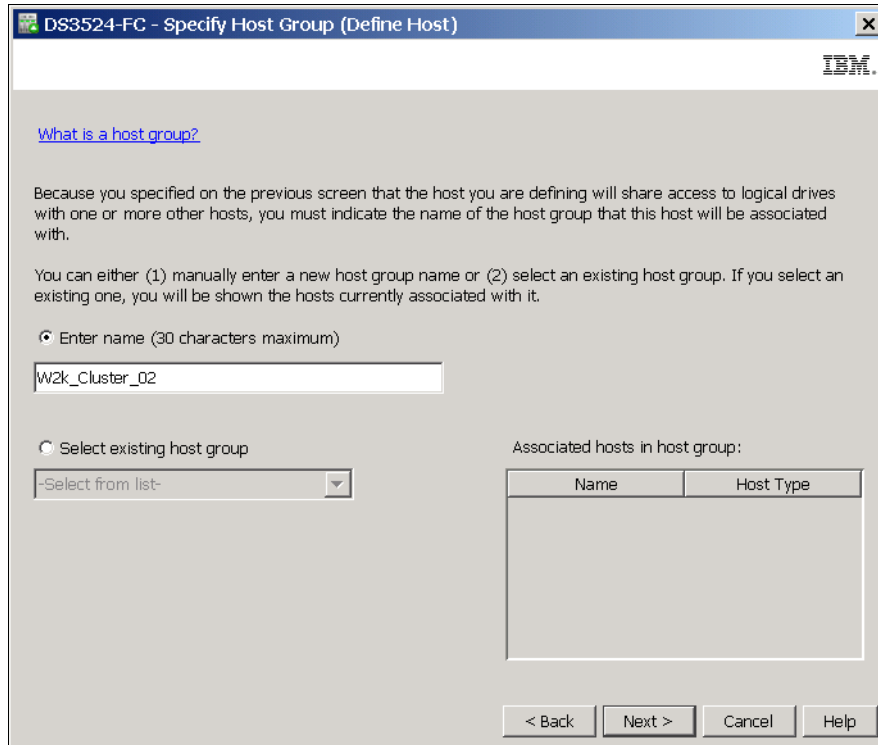

Figure 11-9 Define Host: Specify new Host Group
- (Optional) If the answer is **Yes**, then you need to specify a host group. The host group can be either a new or an existing one. If you select an existing host group, hosts that are already associated with that group are displayed in the right pane of this window. If you enter a new name, as shown in Figure 11-9 on page 283, the new host group will be created with this new host as a member. Select **Next** to continue.